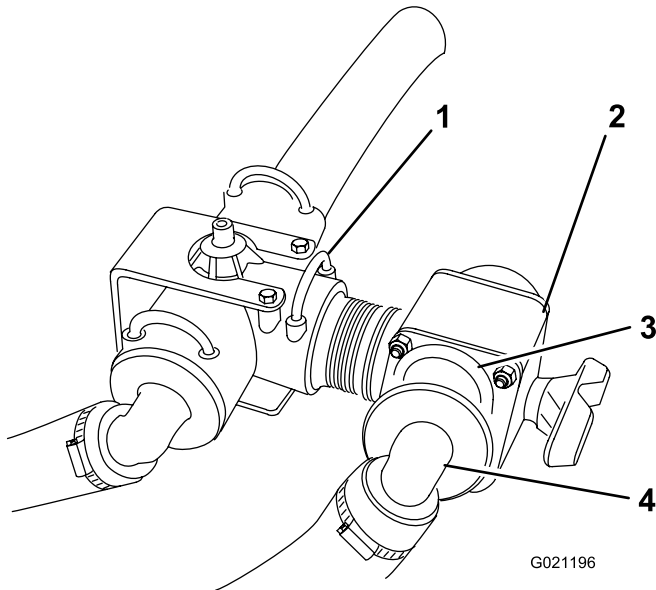

Figure 6
5. Connect the boom hose that you disconnected in step 1 to the open port on the control valve and secure it with the retainer you removed in step 1 (Figure 6).